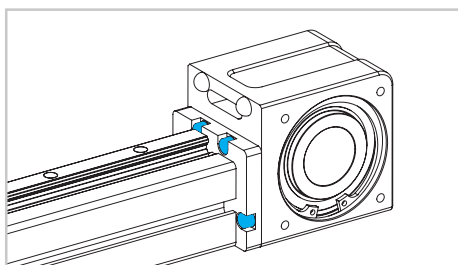

Fig. 8
- 5) For sizes 30 and 50 unscrew the four screws on the head fixing flange (fig. 8).